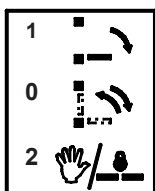

Fig.1
Make the electrical connections on the 950 I/O control board as shown in section 8, connect the electrical mains supply to the corresponding terminal (fig.I-ref. ⑩ ) and ensure that the earthing cable is crimped to the terminal (fig.1-ref. ⑫ ) screwed on to the support profile (fig.I-ref. ② ). Finally, tighten the terminal (fig.I-ref. ⑬ )
The 950N reversible automated system for leaf doors is an enbloc consisting of an electromechanical device that allows door opening by means of a transmission arm. The protective housing contains the electronic control unit for system programming and operation control. The 950N automated system features a selector switch for choosing the operating logic, as shown in fig. 1. As an alternative to the function selector switch, it is possible to install a "KP Controller" programming unit (fig.2) available as an accessory.
Set the selector switch to "2" MANUAL/NIGHT (fig.1) and manually open or close the door.
Set the selector switch to "0" AUTOMATIC (fig.1).